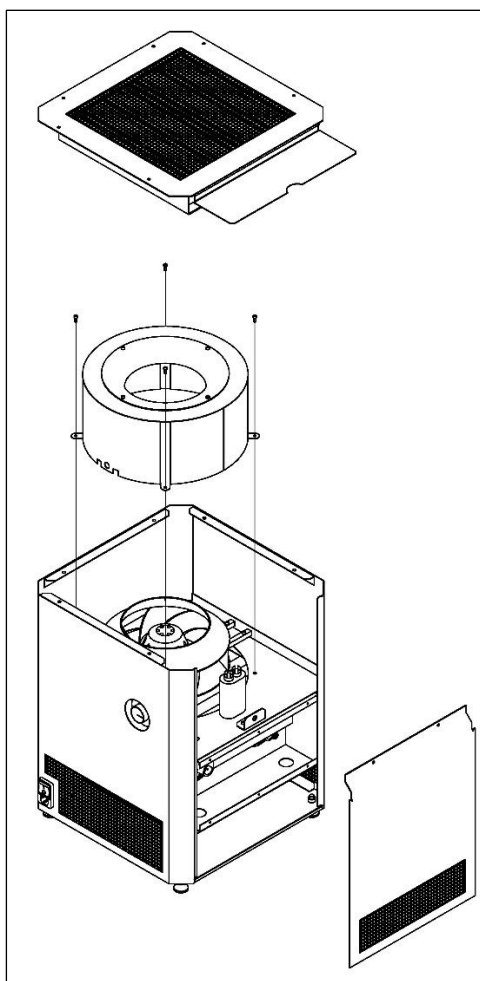

Figure 16
- 3.) Remove (4) screws holding fan shroud in place using an Allen wrench. See Figure 16.
- 11.) Reconnect fan shroud to frame using (4) screws. Tighten with an Allen wrench. See Figure 16.